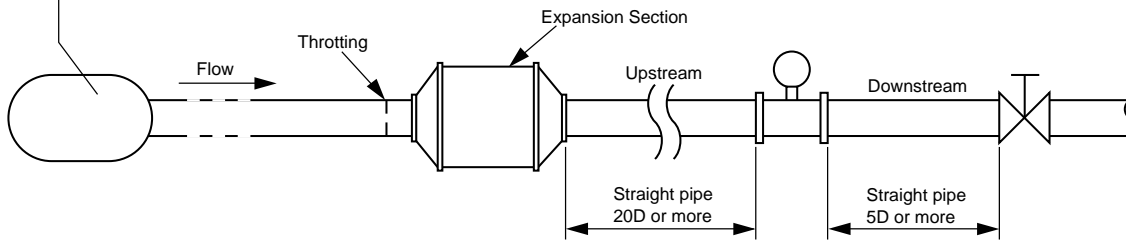

Figure 9.1.3
- (3) In addition, install a fluid vibration damping device such as throttling plate or expansion section on the upstream side of YEFWLO. (Refer to Figure 9.1.3)